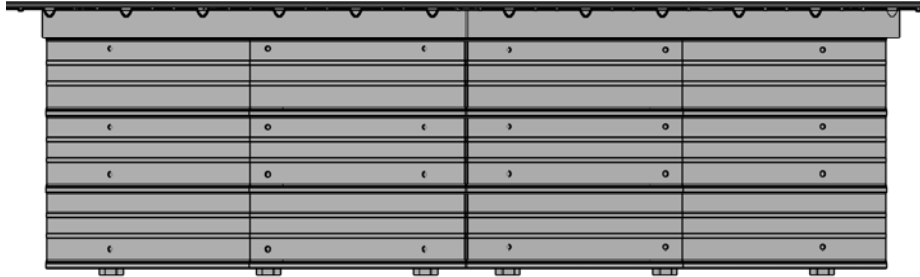

FIGURE 16
3. Place the Ridge Roof Sheet (C-041-00) back on the canopy. Center it to make sure it is under the Transition Flashing and centered on the ridge. Using the Structural Screws (F-051-00) fasten to the Hat Purlins per **Figure 16**. Using the roll of Tape Sealant, apply to the last major roof panel corrugation under the Transition Flashing from eave to eave. Remove paper and secure the Transition Flashing to the Roof Sheets with Stitch Screws (F-051-00) 6" on center.